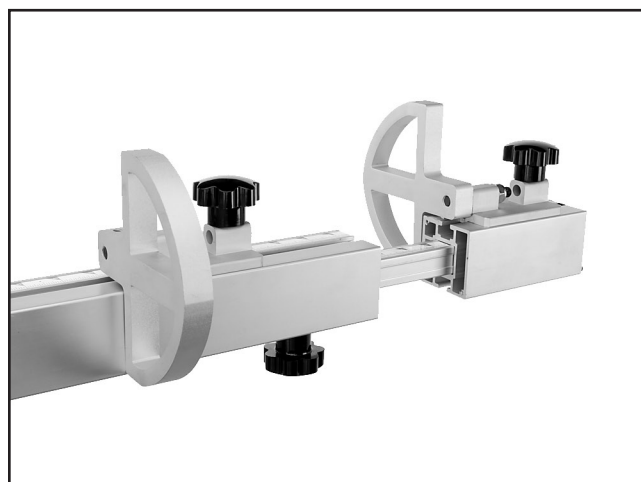

Figure 38. Stop block installation.
6. Unlock the crosscut fence extension and slide the flip stops into the fence as shown in **Figure 38**.